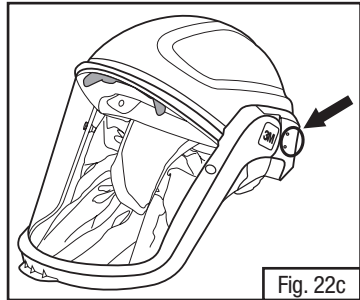

Fig. 22c
- Locate the earmuff attachment points on the outside of the headgear shell (Figs. 22c & d). Note on the M-300 Series Headgear there are visible indents on the outside of the shell where the earmuffs attach. On the M-100 and M-200, the indents may not be as visible on the outside of the shell.